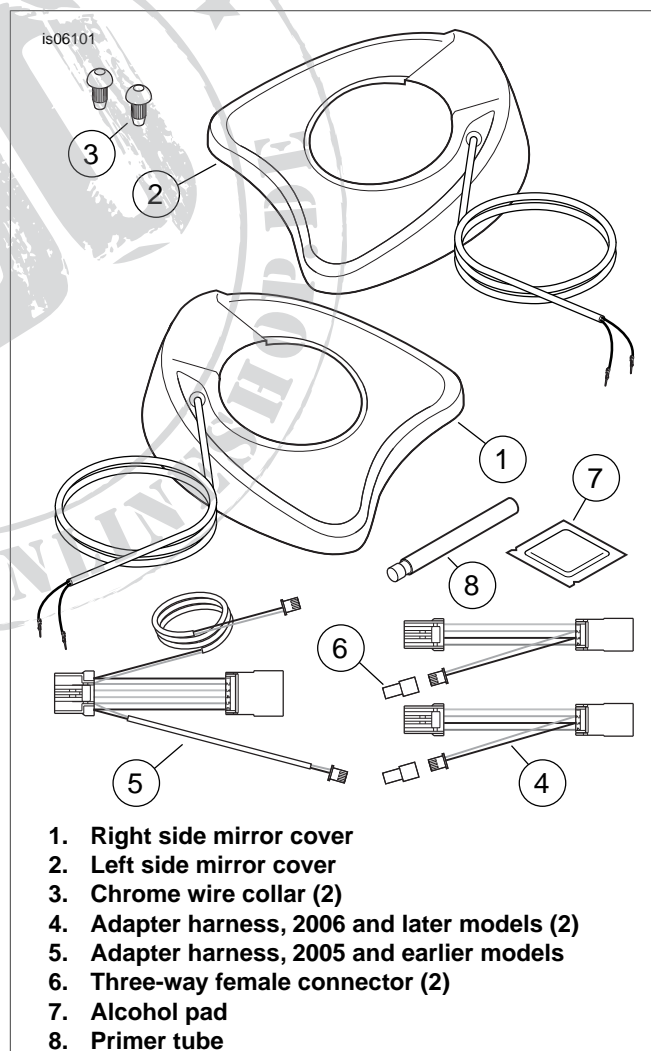
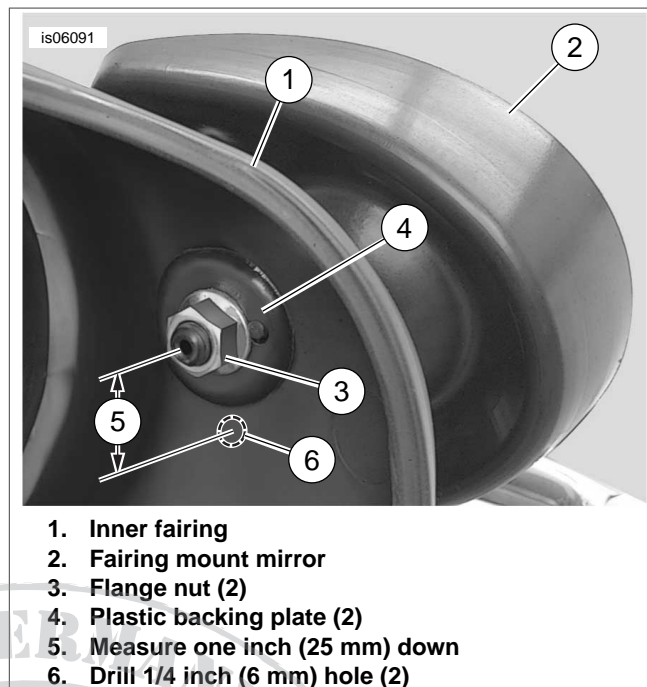

Figure 1. Kit Contents, Illuminated Chrome Mirror Cover Kit
Figure 2. Fairing Drill for Illuminated Mirror
2. See Figure 2. Remove the mirrors (2), flange nuts (3) and plastic backing plates (4) securing the mirrors to each side of the **inner** fairing (1), and retain all items
3. Measure one inch (25 mm) straight down (5) from the large mirror stud hole in the inner fairing, and make a mark.
4. Drill a 1/4 inch (6 mm) diameter hole (6) through the inner fairing at the mark.
5. See Figure 1. Obtain a chrome wire collar (3) from the kit, and press it into the **new** hole from the **outside** of the inner fairing. Gently tap into place with a soft-faced hammer.